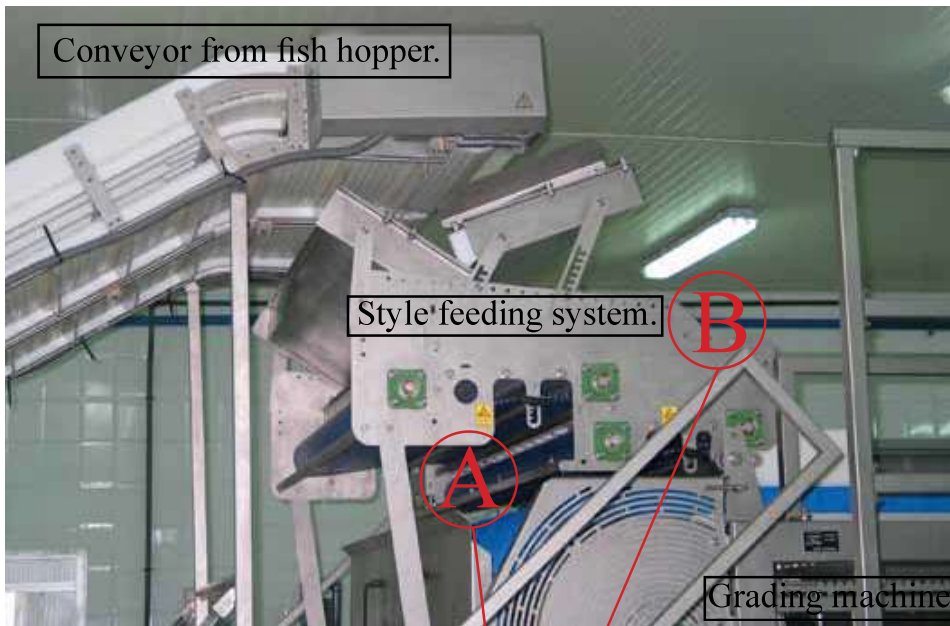

Fig. 4.5
The water supply connection should be according to the latest International, National or local Requirements and should be adhered to. The machine needs about 300 ltr. of clean water per hour when in operation. There are two water spray bars on the machine. The pressure of the water should be between two and up to 8 bars to obtain sufficient water supply to the spray bars for the machine. Water is for cleaning and lubricating the grading chains while in operation and the machine should never be run without running water. See fig. 4.5 page 21.
- Test that correct and enough water flow is supplied to water spray bars A and B on the feeding system, see fig. 4.5 on page 21.